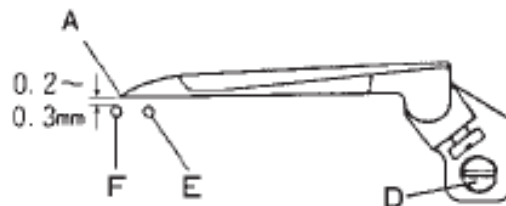

Fig. 9
Push right Needle (E) with the effect of rear Needle Guard and provide a clearance of 0-0.05mm between Needle (E) and point of Looper.(Fig. 9)
(Fig. 9